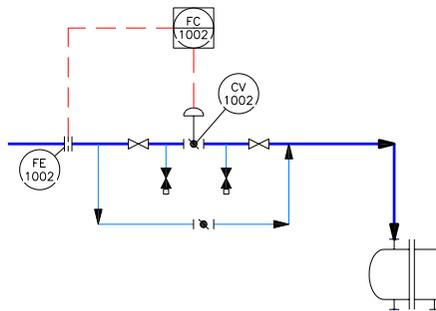

Figure 2-69 Position of the **Primary Accessible DCS**
11. Place the instrument symbol on the electric signal line, as shown in Figure 2-69; the **Assign Tag** dialog box is displayed.